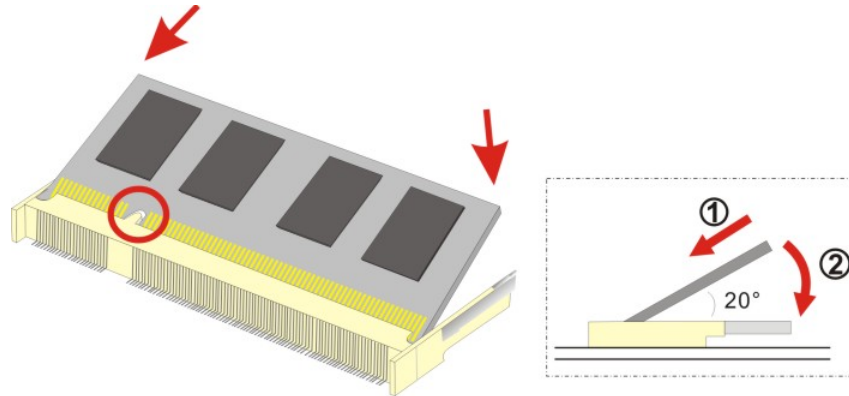

Figure 4-1: SO-DIMM Installation
To install a SO-DIMM, please follow the steps below and refer to **Figure 4-1**.
- Step 3:** Insert the **SO-DIMM**. Push the memory in at a 20° angle. (See **Figure 4-1**)
- Step 4:** Seat the **SO-DIMM**. Gently push downwards and the arms clip into place. (See **Figure 4-1**)